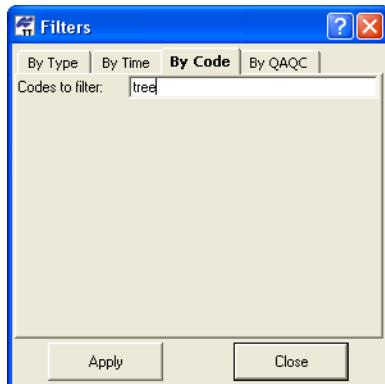

Figure 4-69. Select By Feature Filter
2. On the *By Code* tab, type the name of the code/feature to filter data by (Figure 4-69 on page 4-64).